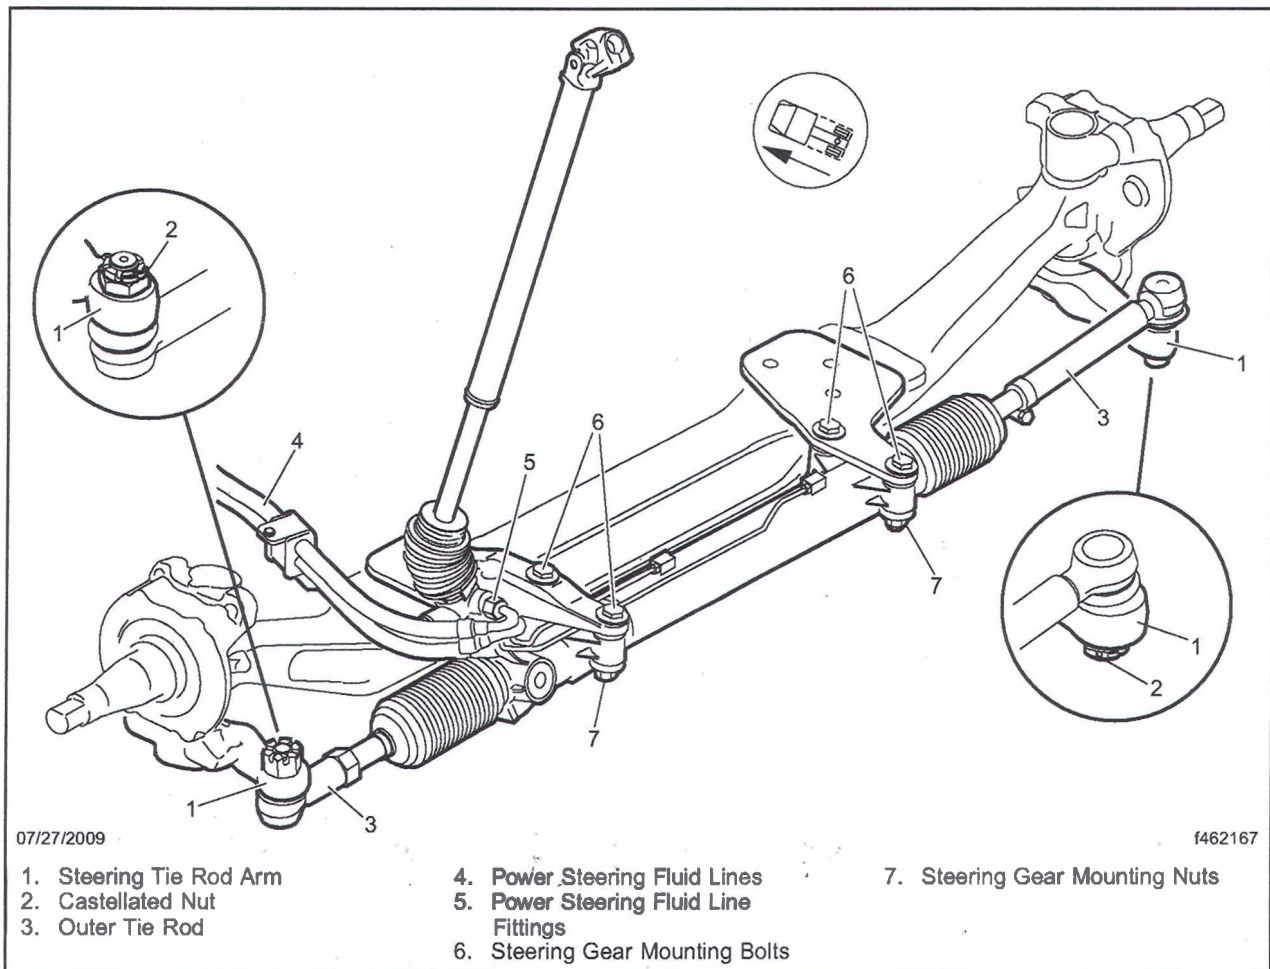

Fig. 6, Rack and Pinion Steering Gear Assembly
24. Using new mounting bolts and nuts ( Fig. 6, Items 6 and 7), install the steering gear on the axle. Tighten the fasteners 229 lbf-ft (311 N-m).